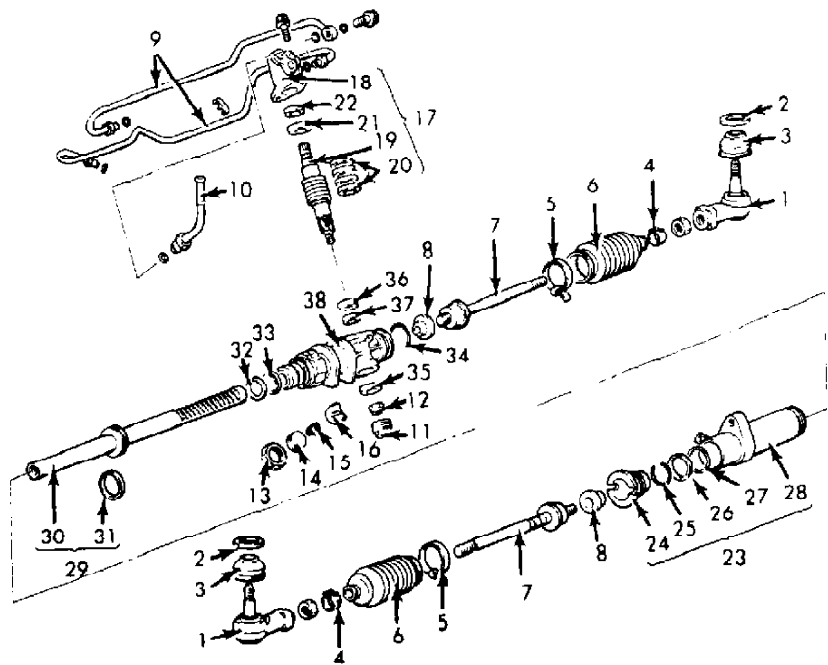

Fig. 4: Exploded View Of Power Rack & Pinion Assembly (Typical)
1) With power rack and pinion assembly mounted in soft-jawed vise, remove tie rod ends, bellows boot clamps and boots. See Fig. 4. Using a chisel, move tie rod tab washer. Remove tie rod assemblies. Remove steel fluid lines. Remove pinion end plug and nut.